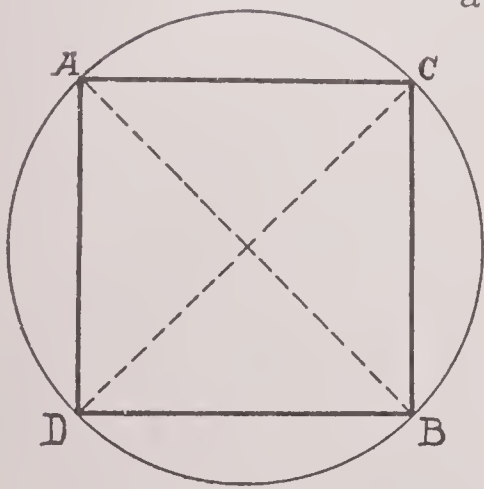

Fig. 18
18. To inscribe a square in a given circle (Fig. 18):